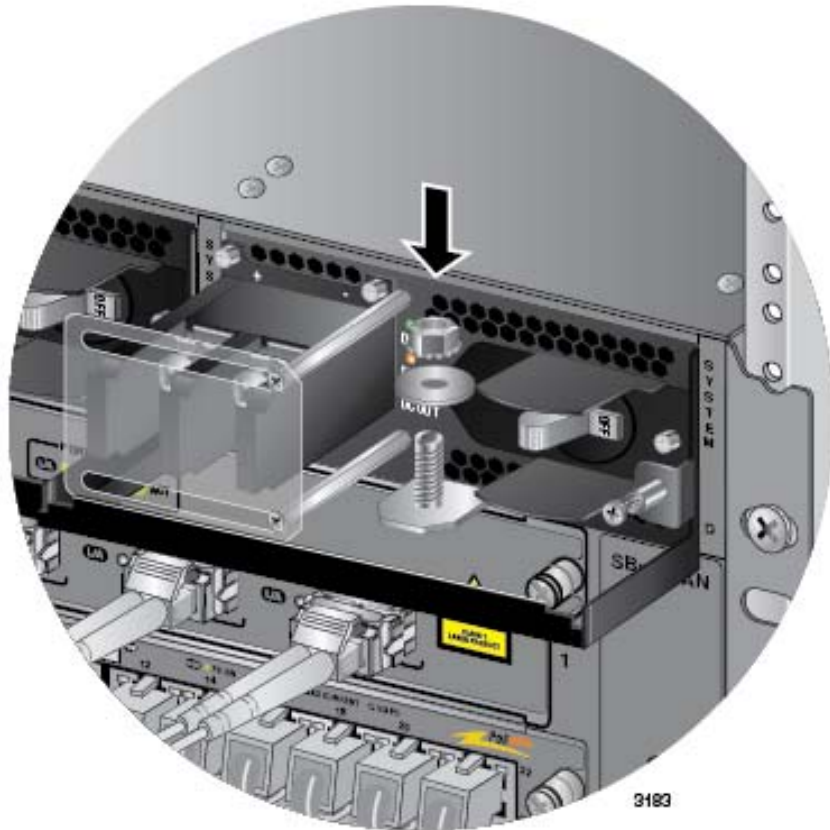

Figure 179. Reinstalling the Nut and Washer on the Grounding Post
10. Reinstall the nut and washer on the grounding post. Refer to Figure 179 on page 302.